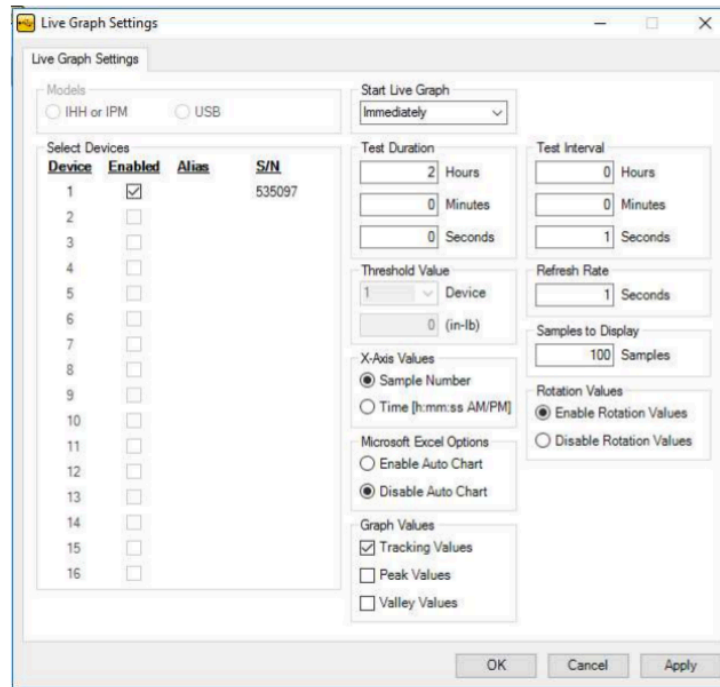

Figure 7: Live Graph Settings
- g) An input window should open (Figure 7). For “Test Duration”, change the hours from **0** to **2**. For the “Test Interval”, change the seconds to **1**. The “Refresh Rate” should be set to **1** and “Samples to Display” should be set to **100**. Make sure the X-Axis Values is checked as “Sample Number”. Microsoft Excel Options is “Disable Auto Chart”. Graph Values the “Peak Values” and “Valley Values” are unchecked. Check the “Enable Rotation Values”. Click **Apply** then **OK**.